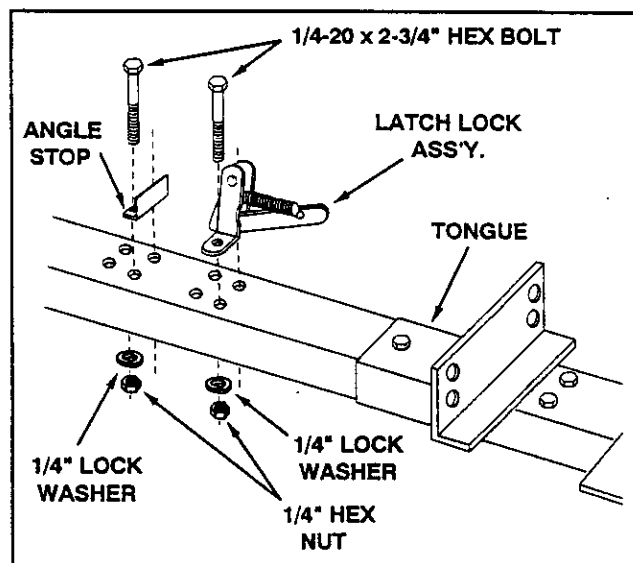

FIGURE 10
- Assemble the latch lock assembly to the tongue using two 1/4" x 2-3/4" hex bolts, two 1/4" lock washers and two 1/4" hex nuts. Fasten to the two front holes in the forward grouping of four holes as shown in figure 10.
- Assemble the angle stop to the tongue using two 1/4" x 2-3/4" hex bolts, two 1/4" lock washers and two 1/4" hex nuts. Fasten to the two front holes in the rear grouping of four holes as shown in figure 10.